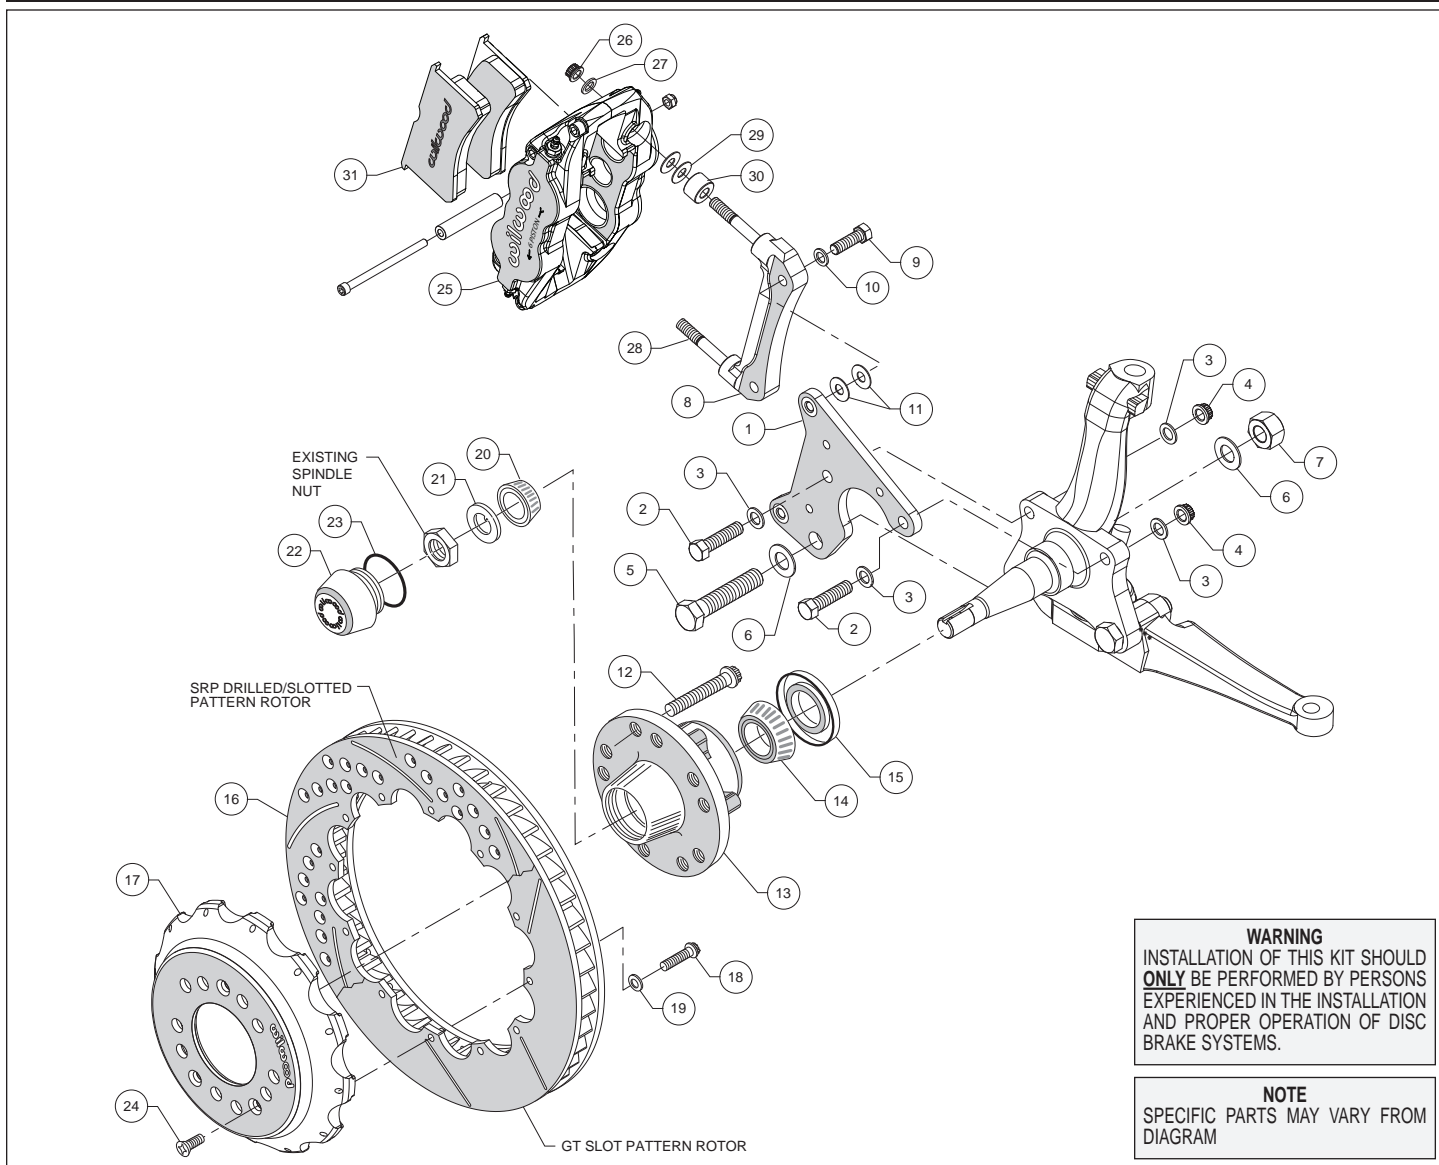
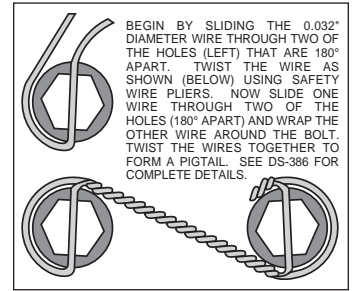

Figure 1. Typical Installation Configuration
Figure 3. Safety Wire Diagram
Assembly Instructions (numbers in parenthesis refer to the parts list and Figure 1 on the preceding pages): **CAUTION:** All mounting bolts must fully engage clinch nuts. Be sure to check that all bolts are protruding through flanged side of clinch nut after shimming.
- Orient the spindle bracket (1) as shown in Figure 1 and Photo 1, and install using bolts (2), washers (3), and nuts (4) on the top holes and bolt (5), washers (6), and nut (7) on the bottom hole, Figure 1 and Photo 1. Temporarily tighten the mounting bolts. Ensure that the flanged heads of the clinch nuts in the bracket are facing outboard, Photo 1. **NOTE:** The bracket must fit squarely against the mounting points on the spindle. Inspect for interference from casting irregularities, machining ridges, burrs, etc. Remove nuts one at a time, apply red *Loctite*® 271 to bolt threads and torque nuts (4) to 47 ft-lbs. and nut (7) to 140 ft-lbs.
- The caliper mount radial bracket (8) should initially be installed with clean, dry threads on the mounting bolts. Orient the bracket as shown in Figure 1, and Photo 2. Install onto the spindle bracket using bolts (9), and washers (10). Initially place two .035 thick shims (11) on each bolt between the radial and spindle brackets, Figure 1. Temporarily tighten the mounting bolts. Later, after the caliper alignment has been checked, the mount bolts will be secured using red *Loctite*® 271.
- Install wheel studs (12) into the hub (13), Photo 3. Torque to 77 ft-lb. **NOTE:** There are two five lug patterns in the hub (5 x 4.50 and 5 x 4.75). Ensure the correct hub stud pattern is being used to fit the wheel application.
- Pack the large inner bearing cone (14) with high temperature disc brake bearing grease (available from your local auto parts store) and install into the backside of the hub (13), Photo 4.
- Install the grease seal (15) by pressing into the backside of the hub (13), flush with the end of the hub, Photo 4.
- Orient the rotor (16) and the hat (17) as shown in Figure 1 and Photo 5. Attach rotor to hat using bolts (18) and washers (19). Using an alternating sequence, apply red *Loctite*® 271 to the threads, and torque to 155 in-lbs. For an added measure of security, the bolts may be safety wired using standard 0.032 inch diameter stainless steel safety wire as shown in Figure 3. Refer to Wilwood's data sheet DS-386 for complete safety wire installation instructions.
- NOTE:** *This kit contains distinct right and left hand calipers that must be mounted in a specific direction, as described below.* Lubricate the caliper mounting studs (28) with lightweight oil. Initially place one spacer (30), and two .035" thick shims (29) on each stud between the caliper and the bracket, as shown in Figure 1 and Photo 8. Mount the caliper (25) onto the bracket (8) using lock nuts (26) and washers (27), Figure 1. Ensure that the caliper is mounted so the largest pistons are at the rotor exit end of the caliper, in relation to the direction of rotor rotation. Temporarily tighten the lock nuts and view the rotor through the top opening of the caliper. The rotor should be centered in the caliper, Photo 9. If not, adjust by adding or subtracting shims (11) between the spindle bracket (1) and the caliper mount bracket (8). Always use the same amount of shims on each of the two mounting bolts. Once the caliper alignment is correct, remove the radial bracket mounting bolts one at a time, apply red **Loctite® 271** to the threads, and torque to 40 ft-lb. **NOTE:** *The end of the bolts must be flush with, or protruding through, the head of the clinch nut.*